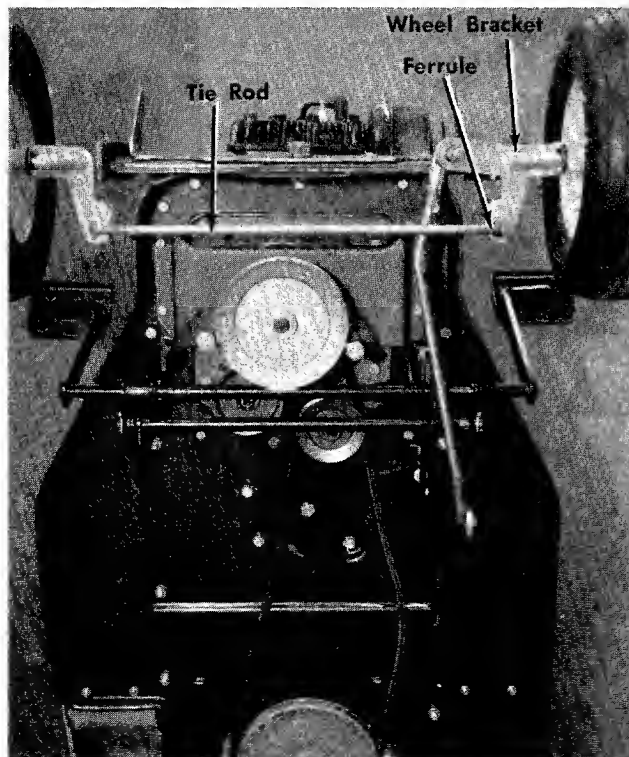

FIGURE 33.
1. Remove the cotter pin holding the ferrule to the axle bracket. See figure 33.